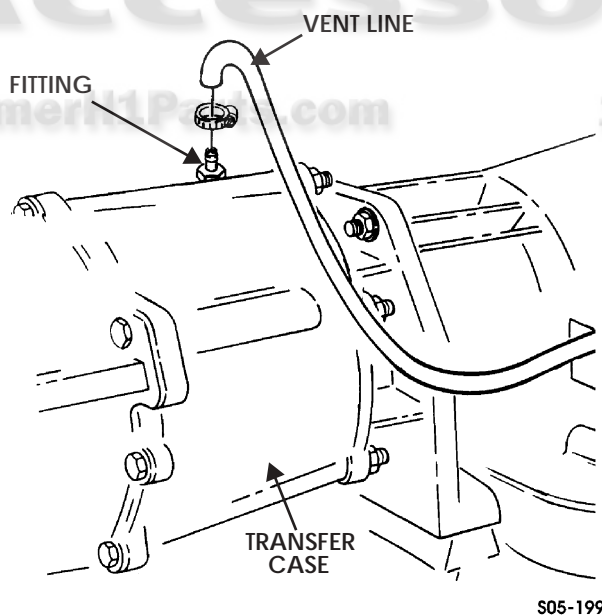

Figure 5-127: Vent Line
10. Coat seal on output speed sensor with Dexron II and install speed sensor in transfer case with bolt. Tighten bolt to 15 lb-ft (20 N•m) (Figure 5-127).